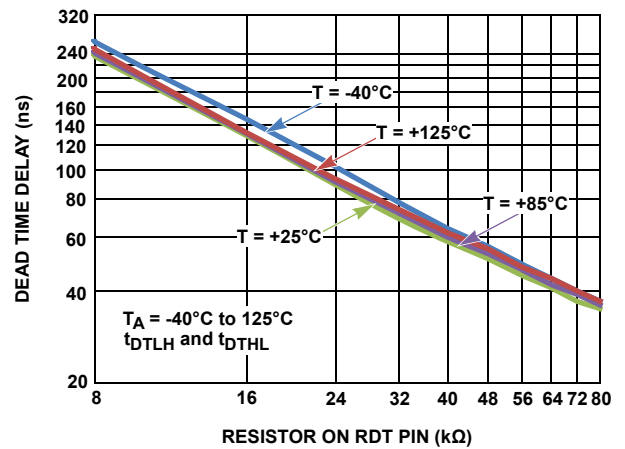

FIGURE 8. DEAD TIME DELAY vs RDT RESISTOR
When the PWM input transitions high or low, it is necessary to ensure that both bridge FETs are not on at the same time to prevent shoot-through currents. The ISL78420 programmable timers delay the rising edge of the high-side (HO) and low-side (LO) gate drives so that both FETs are off before one of them is turned on. The dead time delay on the rising edge of LO and HO is programmable with a single resistor from the RDT pin to  $V_{SS}$ . The dead time is adjustable from 35ns ( $R_{RDT} = 80k\Omega$ ) to 220ns ( $R_{RDT} = 8k\Omega$ ). It is not recommended to use resistors beyond these values. The dead time is set equal on both falling edges of LO and HO. See "Timing Diagram" on page 6 for the definition of dead time delay. See Figure 8 on page 7 for the programmed dead time vs resistor value.